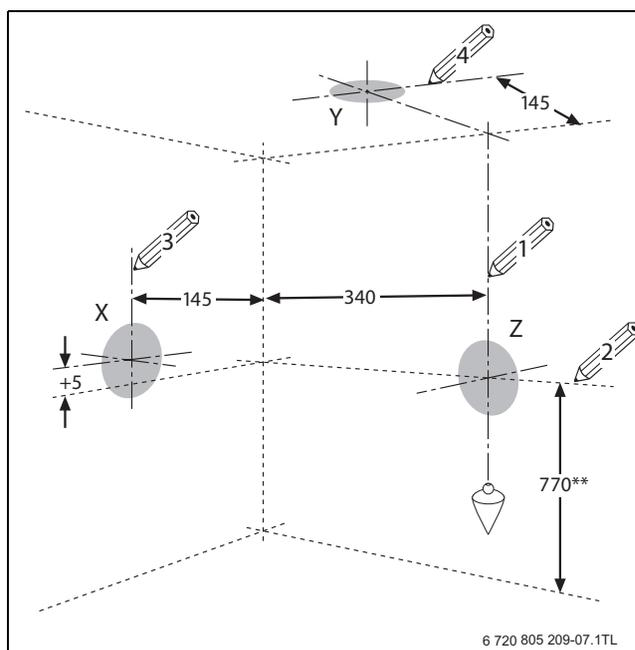

Fig. 28
- Follow figure 28 to mark the centre of the flue (1, & 2) for rear opening, (2 & 3) for side opening or (1 & 4) for top opening.